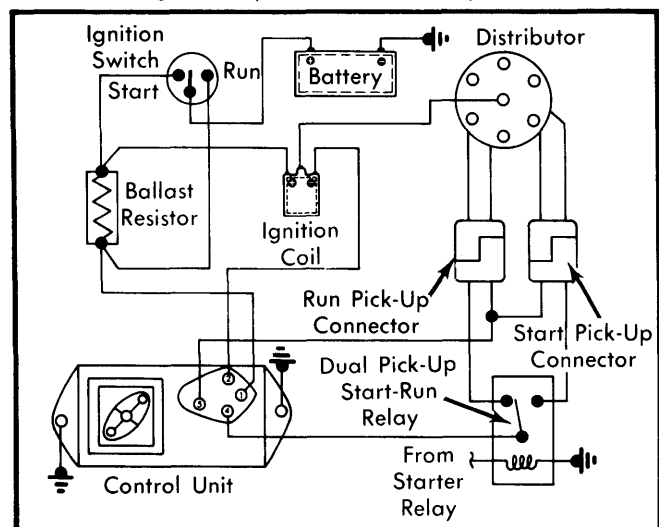

Fig. 1 Electronic Ignition Wiring Diagram for Chrysler Corp. 225" Federal Engines (NOTE: No Pin No. 3 on Control Unit)
All Federal 225" 6-cylinder engines use Chrysler Corp. Electronic ignition. This system consists of an electronic control unit, a dual pick-up distributor (with a reluctor and two magnetic pick-up assemblies), a dual pick-up start-run relay, an ignition coil, a single ballast resistor and both vacuum and centrifugal advance mechanisms. See Fig. 1.
1) Connect voltmeter positive lead to control unit harness connector cavity 1. Reading should be battery voltage. If not, check and repair wires and components from harness connector cavity 1 back to battery. See Fig. 1.
1) Turn ignition switch "OFF". Disconnect control unit harness connector. Connect ohmmeter leads to cavities 4 and 5 of harness connector. See Figs. 1 and 5. Ohmmeter reading should be 150-900 ohms. If reading is not to specifications, make same check at each 2-wire connector leading to distributor. If readings at pick-up coils are now correct, start-run relay or harness from control unit to distributor is defective. If readings are still not correct, replace faulty pick-up coil assembly.